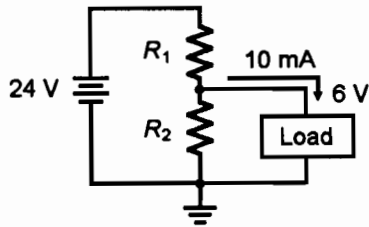

Figure 1.3
3. Discuss how you would connect a load that operates with a certain voltage/current demand to a voltage divider circuit (see Figure 1.3).